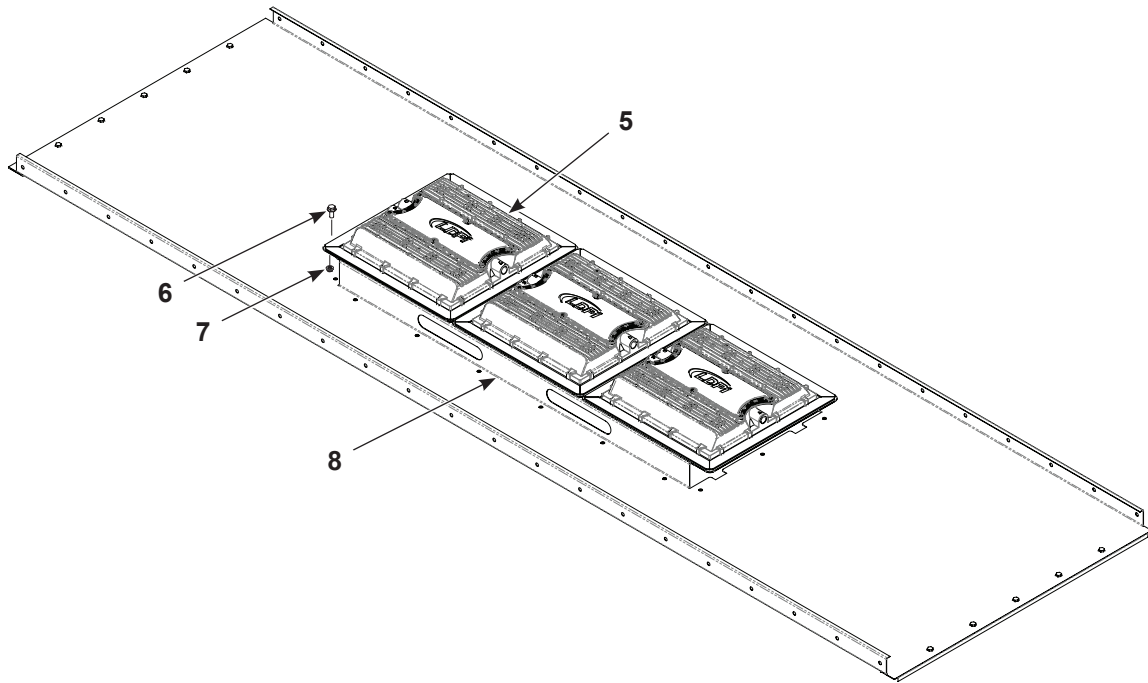

Figure 15 LED Light Installation
3. See Figure 15. Place the LED light (5) on top of the mounting bracket (8) of the roof panel.
4. Secure the LED light to the roof bracket (8) using four of the 5/16-in. hex screws (6) and nuts (7) provided with the canopy.